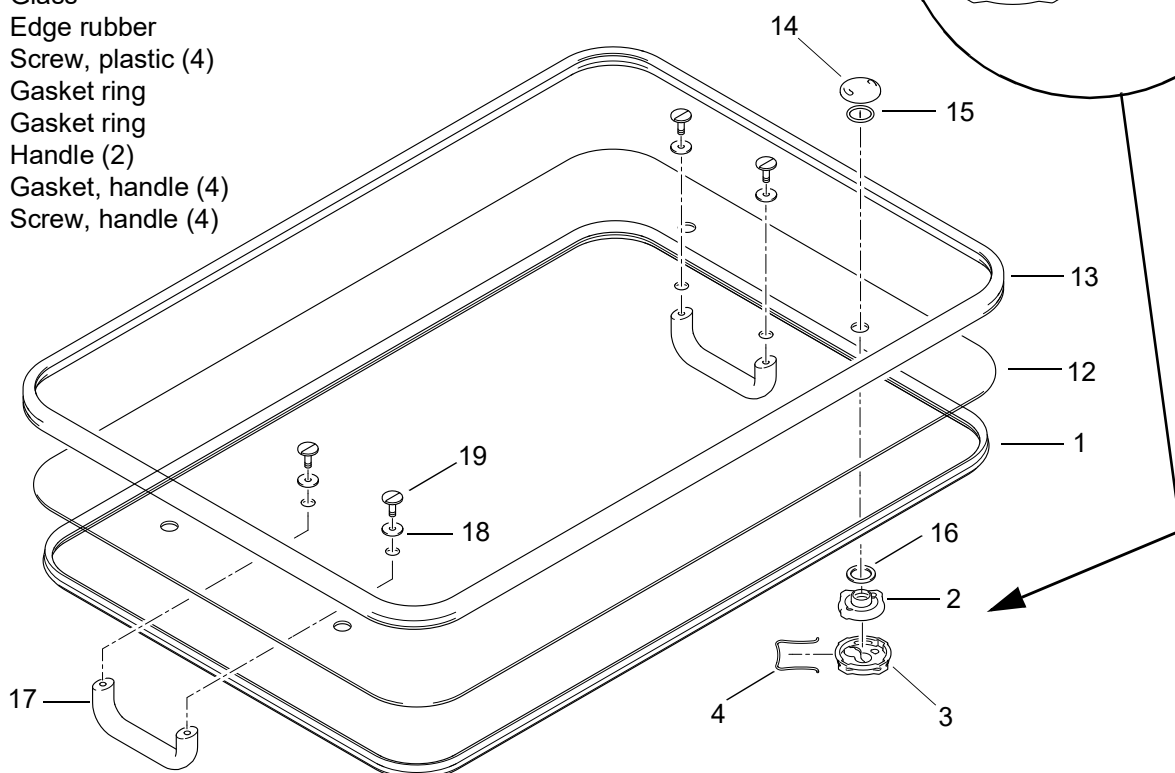
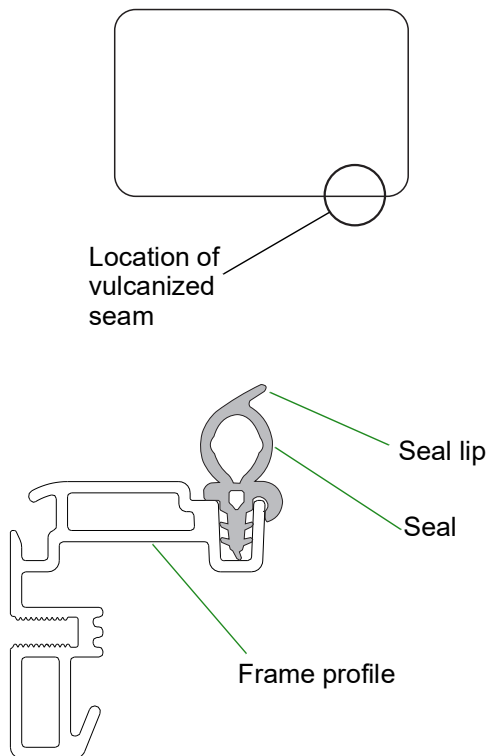

Fig. 802 Eleon hatches - Components (part 2)
Fig. 803
2. Remove the seal (1, Fig. 802) from its groove in the frame (1, Fig. 801) by pulling it upward all around the roof hatch.
2. Place the new seal (1, Fig. 802) onto the hatch frame. Locate the seal so that the vulcanized seam is in the first quarter of a long frame side, the seal lip must point outwards (see Fig. 803).
2. Pull retaining clips (4, Fig. 802) from all 4 cover carriers (2, 3).
1. Position cover assembly onto the lower parts (3, Fig. 802) of the cover carriers.
2. Starting at a corner, use one hand to connect the cover carrier (2, 3) and use the other hand to insert the retaining clip (4) into the cover carrier.
2. Disconnect cover assembly from the lower parts (3, Fig. 802) of the cover carriers.
2. Position cover assembly onto the lower parts (3, Fig. 802) of the cover carriers.
3. Pull retaining clip (4, Fig. 802) out from the cover carrier (2, 3).
2. Position the lower part of the cover carrier (3, Fig. 802) onto the ball head of the lifting mechanism and place the upper part of the cover carrier (2) onto it.
3. Insert retaining clip (4) into the cover carrier.